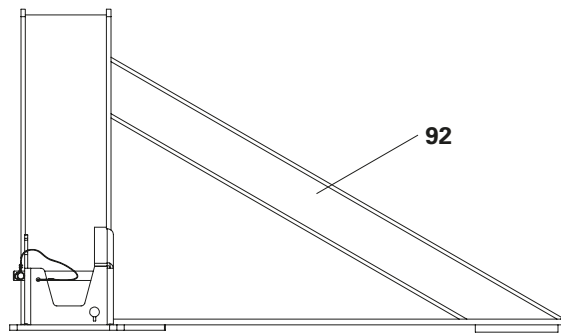

Fig. D2.03
1. Set down the Main Beam Bracket Alpha (**92**) on the ground ensuring that it cannot tip over. (Fig. D2.03)